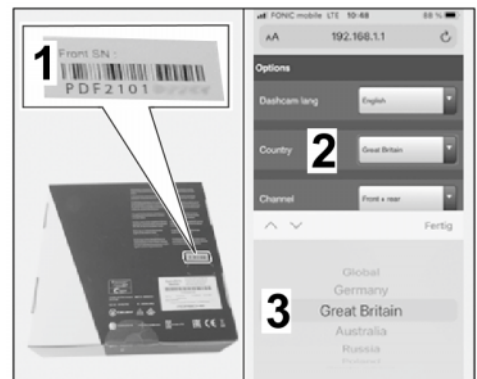

Figure 25
5.3.2 Select country (⇒ *Figure 25*).